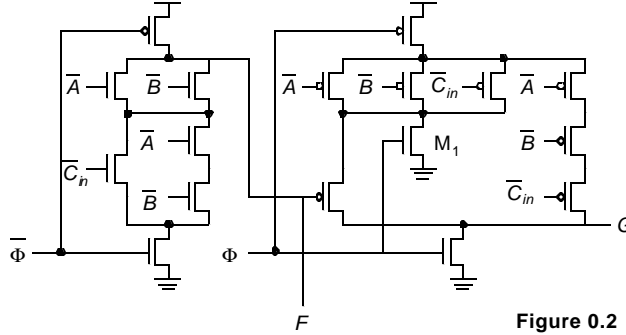

Figure 0.2 Datapath module bit-slice.
5. [M, None, 11.3] Consider the dynamic logic circuit of Figure 0.2 .